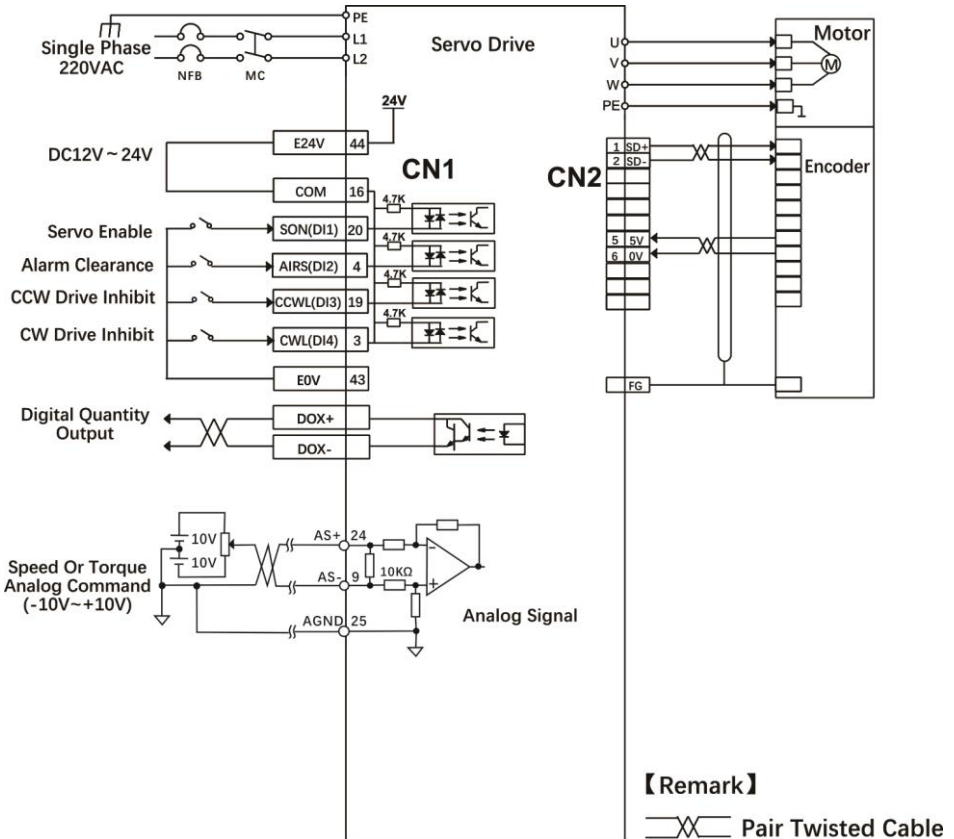

Fig.5-6 Torque Mode Wiring
- 3) To connect the required DI/DO signals in CN1 terminal, such as servo enable, alarm clearance, positioning completion signal, etc referring Fig.5-6.